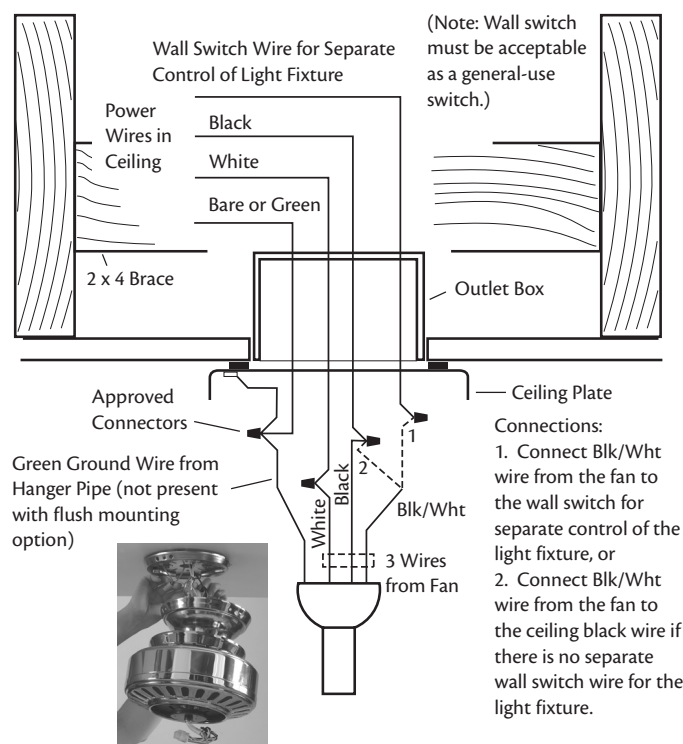

Figure 12 - Wiring the fan
- Insert the pipe through the canopy and adapter cover with the adapter ring assembled. To keep the adapter ring assembled, twist the adapter cover around the downrod. Refer to Figure 12. Feed wires from the fan through the downrod.
- You can use either one or two wall switches to control the fan and/or lights separately. Use connection 1, as described in Figure 12, to
Use connection 2, as described in Figure 12, if there is no separate wall switch power wire for the light fixture.
- Connect the wires as shown in Figure 12. To connect the wires, twist the bare metal leads together. Place a wire nut over the intertwined length of wire and twist clockwise until tight as.